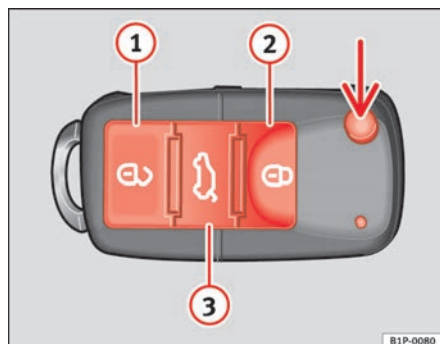

Fig. 63 Assignment of buttons on the remote control key
Using the button \Rightarrow fig. 63 (arrow) on the control, the key shaft is released.
Unlocking the vehicle \Rightarrow fig. 63 ①.
Locking the vehicle \Rightarrow fig. 63 ②.
Unlocking the tailgate. Press the button \Rightarrow fig. 63 ③ until all indicators on the vehicle briefly flash. When the unlocking button \Rightarrow fig. 63 ③ is pressed, you have 2 minutes to open the door. Once this time has passed, it will lock once more.
Also, the battery indicator on the key \Rightarrow fig. 63, will flash.
When the button \Rightarrow fig. 63 ①, is pressed once, the driver's door is unlocked, all others remain locked.
Press the button \Rightarrow fig. 63 ① twice to unlock all doors.
- Press the  ⇒ page 100, fig. 63 button on the remote control.